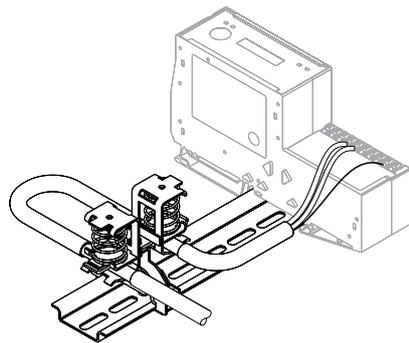

Fig. 39: Shield terminal (gateway)
- ▶ Connect the shield of the connection cable using a gateway shield terminal (BS3511/KLBUE4-31.5) on one side at the interface (see Fig. 39).